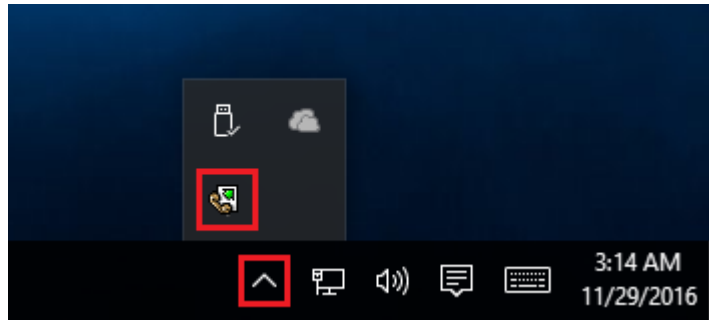

Fig. 22. Systray - panel near clock
- **Start in minimized state** - at start Serial Printer Logger will automatically minimize the program window to the taskbar or to the Systray (fig. 22).